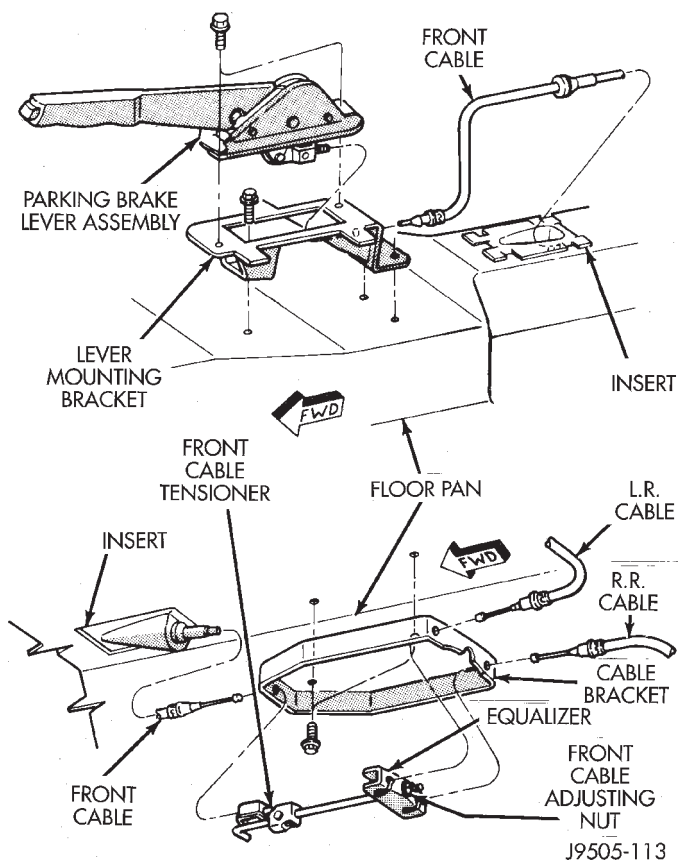
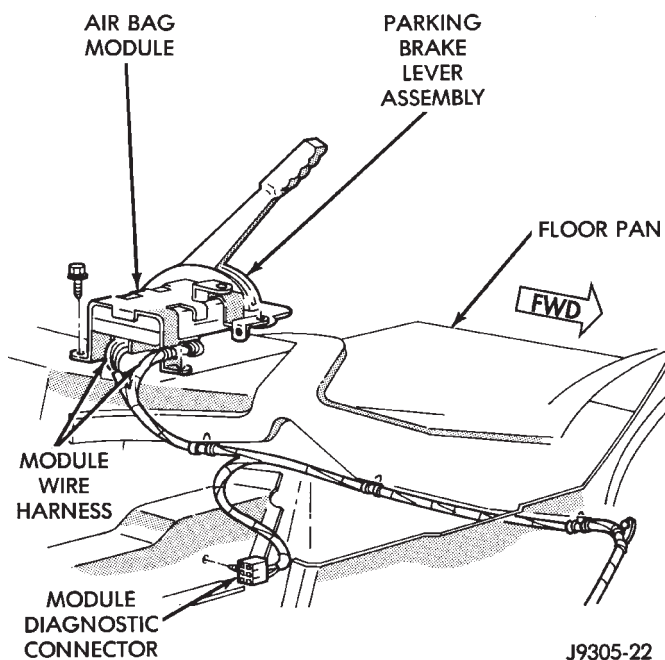

Fig. 42 Parking Brake Lever And Cable Attachment
Fig. 43 Air Bag Module Mounting
- (1) Release parking brakes.
- (2) Disconnect battery negative cable.
- (3) Raise vehicle on hoist.
- (4) Remove front cable adjusting nut and disengage cable tensioner from equalizer. Then remove front cable from tensioner (Fig. 42).
- (5) Disengage front cable from insert and insert from floorpan.
- (6) Lower vehicle.
- (7) Remove center console, refer to Group 23 Body.
- (8) Disconnect parking brake switch and air bag module wiring connectors.
- (9) Remove screws attaching air bag control module to floorpan and parking brake lever. Then move module aside for access to lever (Fig. 43).
- (10) Remove screws attaching parking brake lever to bracket and lift lever upward for access to front cable (Fig. 42).
- (11) Disengage front cable from parking brake lever and remove lever assembly from vehicle.